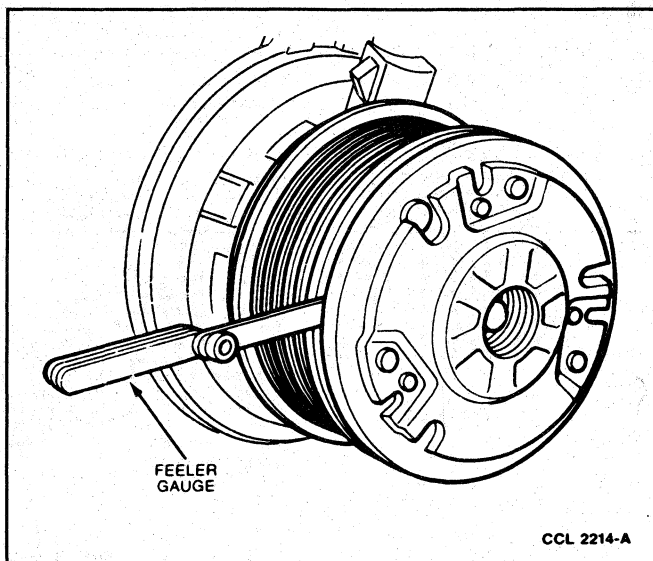

FIG. 9 Clutch Air Gap Check
6. Check and record the air gap between the hub and the mating pulley surfaces in three locations equally spaced around the pulley (Fig. 9).